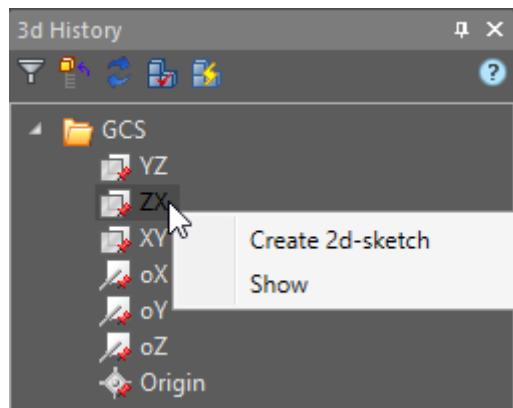

Fig. 3. Creating a 2D sketch
2.1. On the **3D History** function panel, expand the **GCS**. Call the context menu of the **ZX** plane with the right-click (RMB) and select **Create 2d-sketch** (Fig. 3).